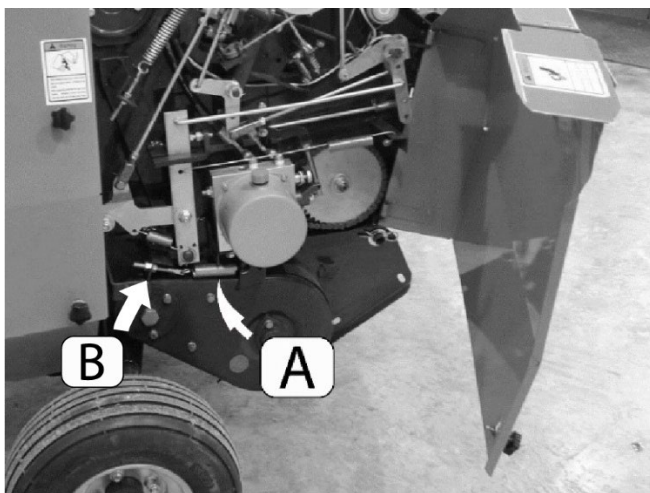

Figure 43 Right side of baler (pickup suspension spring)
The pickup is suspended with two (2) springs (Figure 43, A), one on each side. The length of the spring should be approximately **1 7/8 inches (48mm)** when the pickup is released into working position. Tension can be adjusted if necessary by adjusting the position of the nuts (B).